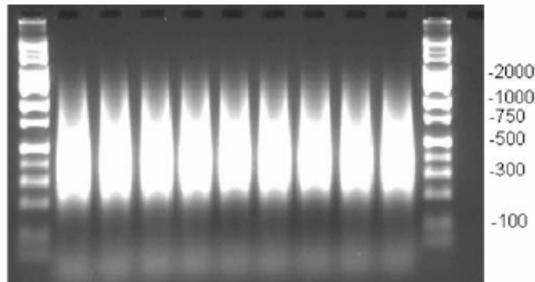

Figure 2. Example of PCR products run on 2% TBE agarose gel at 120 V for 1 h. Average product distribution is between ~200 to 1,100 bp.
33. Verify that the PCR product distribution is between ~200 bp to 1,100 bp (example of gel below, Figure 2).